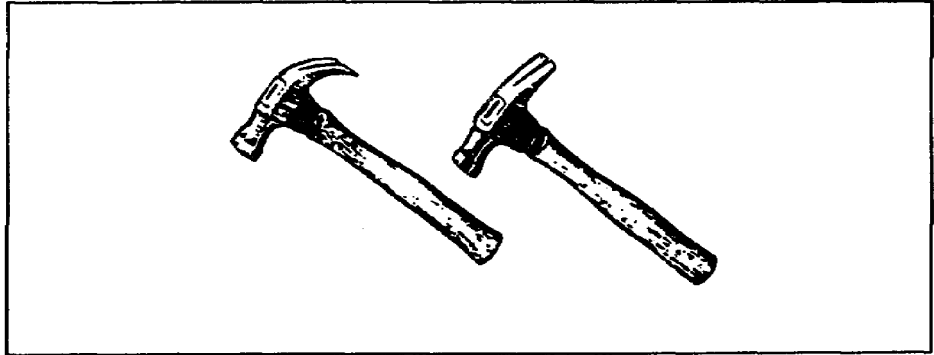

Figure 2-31. Claw hammers
(1) Claw Hammer. The best claw hammers are made from the best steel, which is carefully forged, hardened, and tempered. Hammers differ in the shape of the claw-curved or straight-and in the shape of the face-flat or rounded. The style of the neck, the weight, and the general finish of claw hammers differ according to the intended use. Figure 2-31, page 2-16, shows straight and curved claw hammers. The average weight of claw hammers is 5 to 20 ounces. Good-